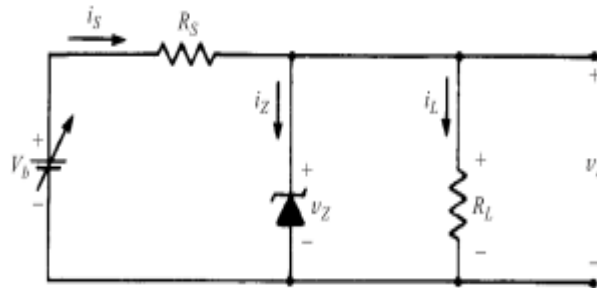

Figure 7
12. The Zener diode in the voltage-regulator circuit of figure 7 has a constant reverse breakdown voltage  $V_Z = 8.2 \text{ V}$ , for  $75\text{mA} \leq i_Z \leq 1 \text{ A}$ . If  $R_L = 9\Omega$ , size  $R_S$  so that  $v_L = V_Z$  is regulated to (maintained at)  $8.2 \text{ V}$  while  $V_b$  varies by  $\pm 10$  percent from its nominal value of  $12 \text{ V}$ .